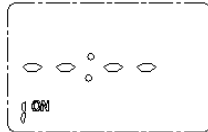

Figure 12
4.2.4.1 press “MD” to set the timing parameters, see Figure 12.
4.2.4.4 Continue to press “MD”, For redundant time period, please press “R” to remove the time of other groups, so that the liquid-crystal display will show“ - - : - - - ”, see Figure 12, and then, press “R” to recall.